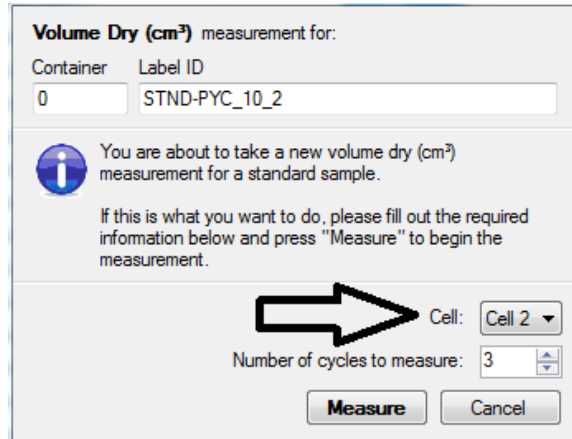

Figure 9. Choose Pycnometer Cell.
2.	Choose the pycnometer cell number to measure (Figure 9). Place the sample in the selected pycnometer cell, and tighten the lid. Enter the number of measurement cycles (generally 3 measurements is acceptable). Once all parameters are set as desired and the sample has been entered into the chamber, click Measure .